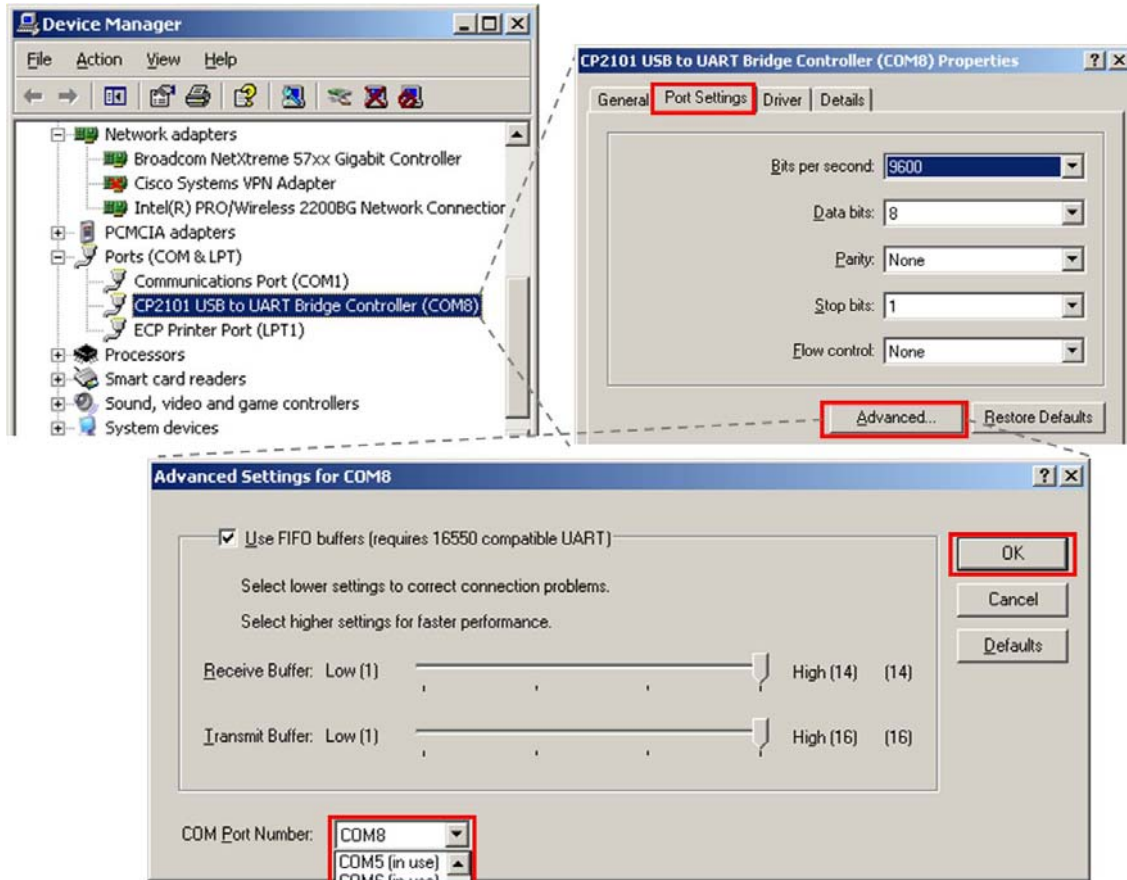

Figure 19 – Screen, **Device Manager** (Changing Port Settings)
- 1) To choose or change the COM port, open the Windows **Device Manager** window and double-click on the device to be changed in the **'Ports'** list to bring up its **'Properties'**. See Figure 19.